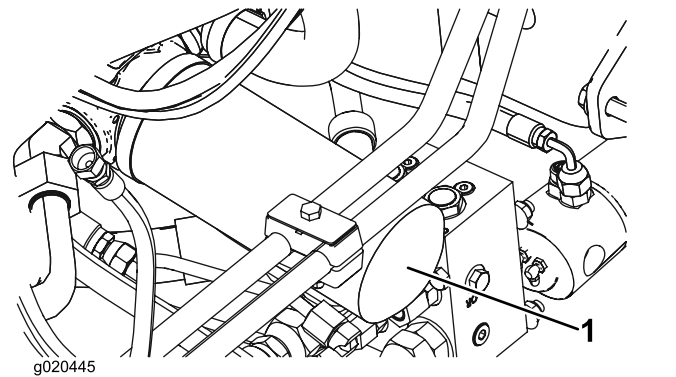

Figure 99
2. Clean the area around the filter mounting areas. Place a drain pan under the filter and remove the filter (Figure 99).